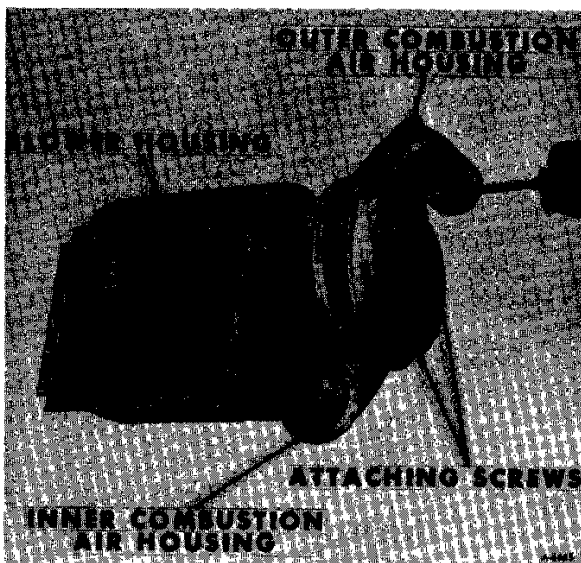

Figure 24 — Removing Outer Combustion Air Housing
4. Remove outer combustion air housing attaching screws (Figure 24). Remove housing and metal plate located between inner and outer housing.
4. Install the inner combustion air housing to the blower motor (Figure 26). Be sure inner housing is aligned as shown in Figure 24 with blower housing.
6. Position metal plate between inner and outer combustion air housings. Install outer combustion air housing (Figure 24).